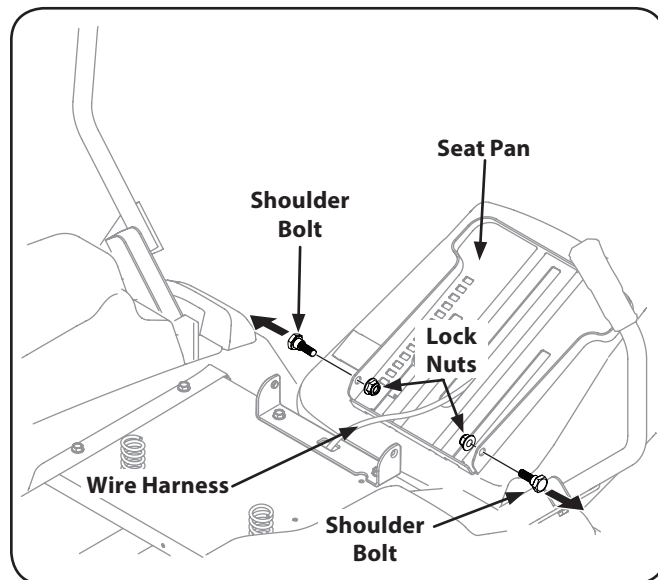

Figure 3-2
2. Remove the two shoulder bolts and lock nuts in the seat pan as shown in Figure 3-2.